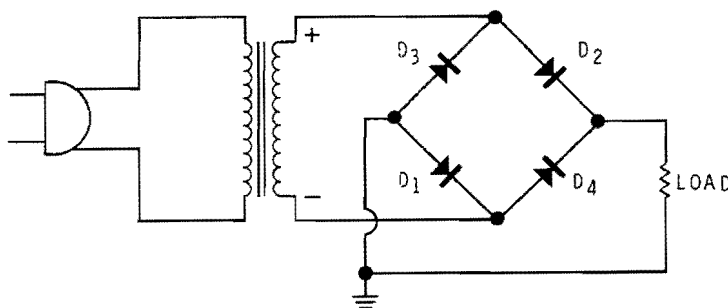

Figure 4-14
7. (60) The half-wave rectifier may be used with or without a \_\_\_\_\_.
11. (120) Because there are no half-cycle pauses between the pulses, the average voltage is higher. If the peak voltage is 50 V, the average voltage will be \_\_\_\_\_ volts.
14. (four) Figure 4-14 shows a simple bridge rectifier. When the voltage across the secondary of the transformer has the polarity shown, diodes \_\_\_\_\_ and \_\_\_\_\_ will conduct.